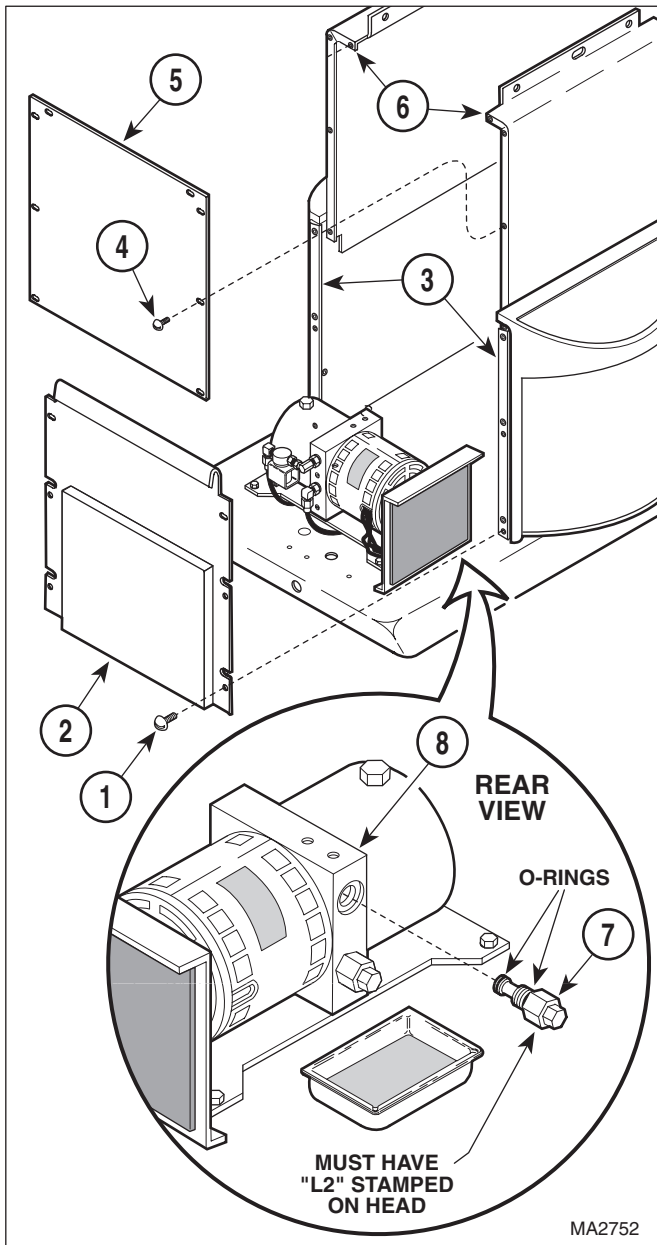

Figure 4-7. Down Functions Relief Valve Removal / Installation
- (1) If possible, raise BASE UP function all the way up.
- (2) Unplug table power cord from outlet.
- (3) Remove motor cover assembly (Refer to para 4.2).
- (4) Remove four screws (1, Figure 4-7) and back outer shroud (2) from left and right hand outer shrouds (3).